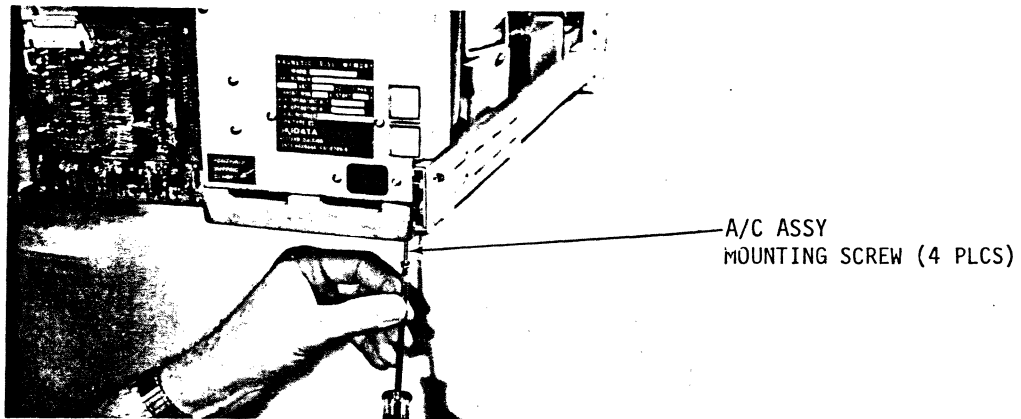

Figure 5-35
- b) Remove drive from cabinet and place drive on bench or table with rear of drive overhanging bench as shown in Fig. 5-35. This allows access to the mounting screws on the lower surface of the drive.